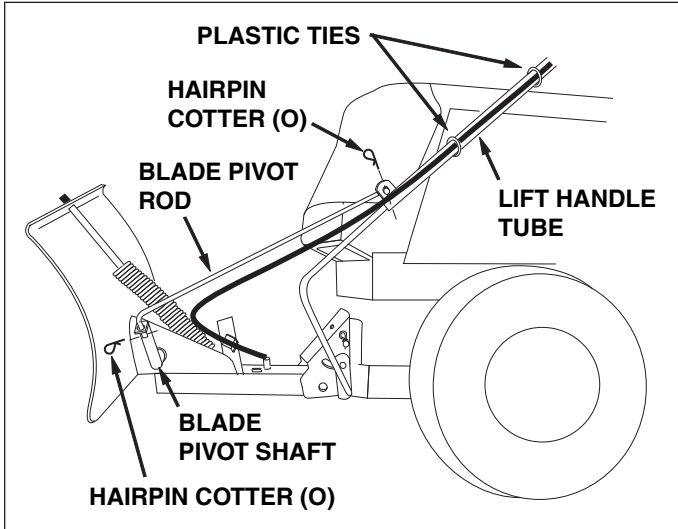

FIGURE 26
STEP 12: (SEE FIGURE 26)
- Place the end of the blade pivot rod down through the blade pivot shaft. Attach the other end of the blade pivot rod to the lift handle tube. Secure both ends with a hairpin cotter (O). The holes for the hairpin cotters should be parallel to the ground.
- Remove the hairpin cotter which fastens the blade pivot rod to the blade pivot shaft. See figure 26 on page 13.